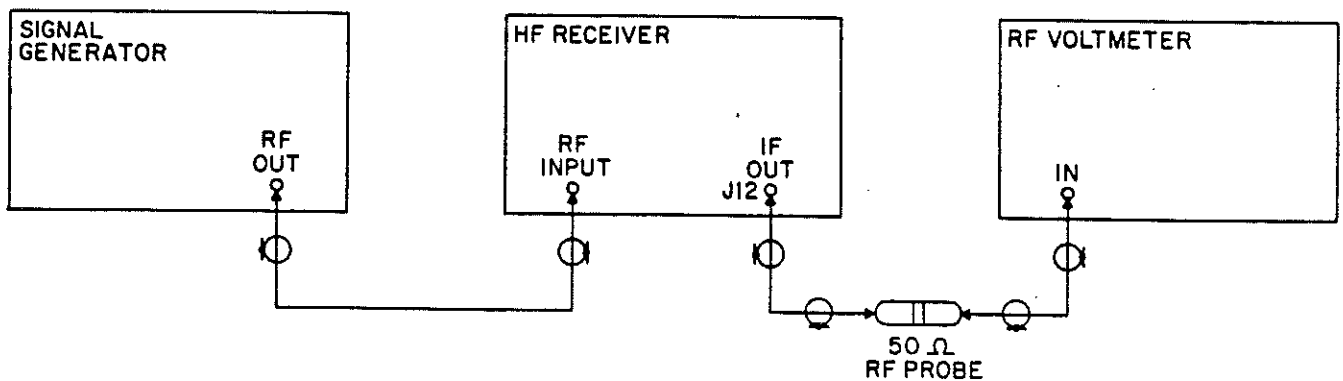

Figure 4-9. Preselector Alignment, Test Setup
2. Connect the test equipment as shown in Figure 4-9. Set the Generator for 53.000 MHz, unmodulated, at -64 dBm.